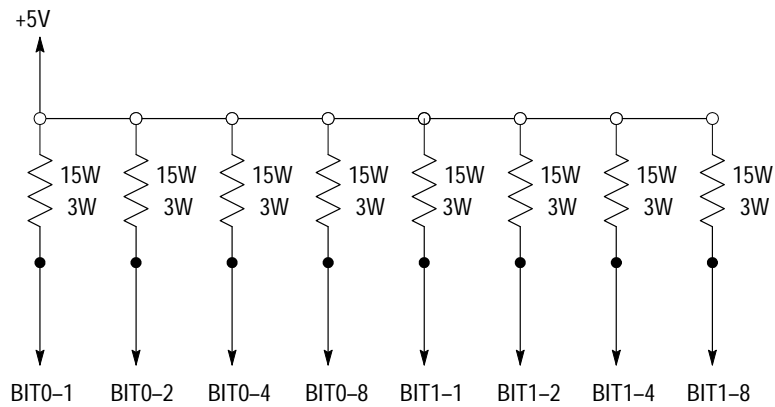

Figure 1-1: Resistor matrix
1. Using the power supply listed in Table 1-1, connect a $15\ \Omega$, 3 W resistor from +5V of the power supply, to each of the pins as shown in Figure 1-1, and in Table 1-2.